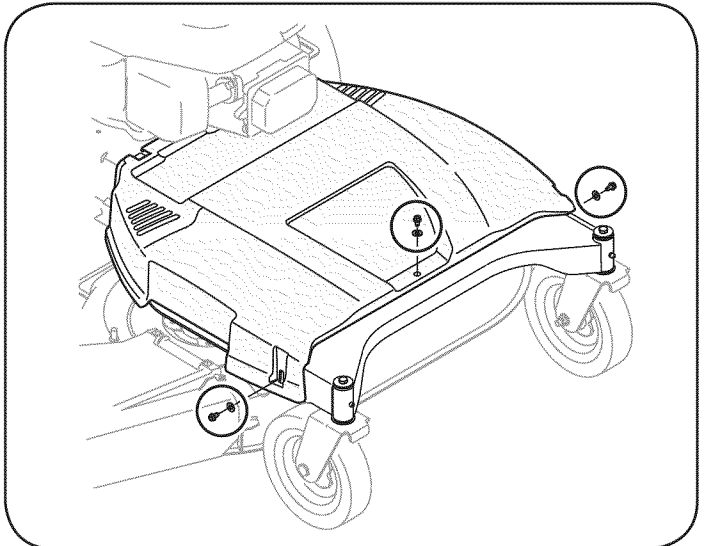

Figure 25
1. Remove the belt cover by removing the three screws and washers which secure it to the frame. See Figure 25.
2. Remove the belt cover as instructed earlier in this section. Refer to Figure 25 on page 22.